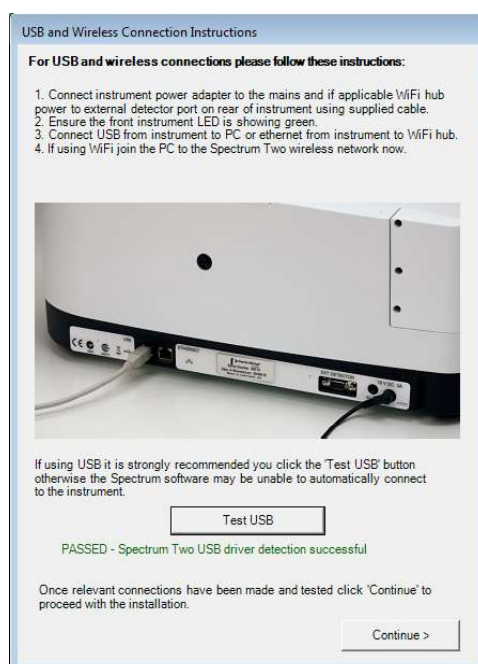

Figure 15 USB Wireless Connection Instructions – successful
3. Click **Test USB** on the USB and Wireless Connection Instructions dialog. The software checks that the USB drivers have installed correctly and the result is displayed (Figure 15).